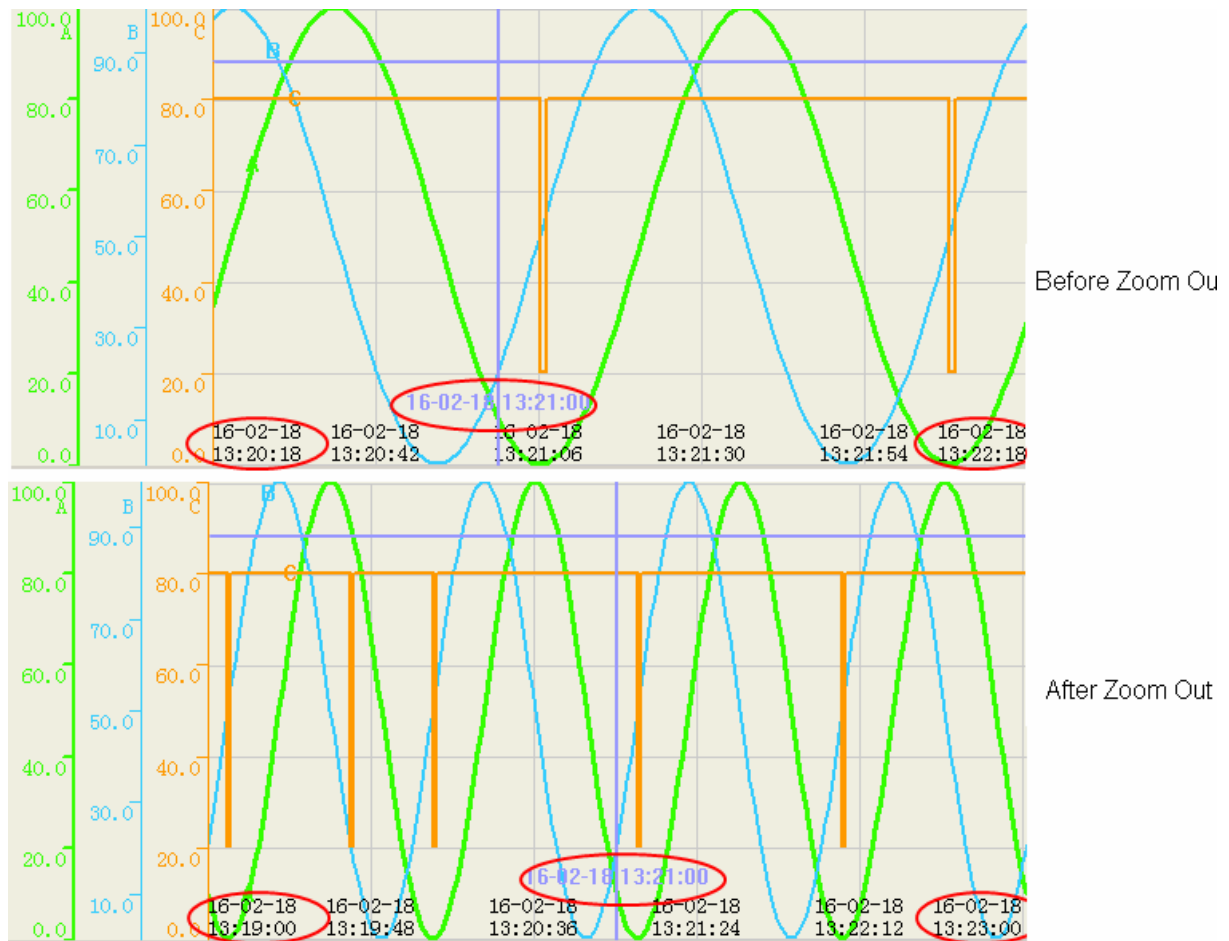

Figure 6-7 Before and after zoom in curve2
- 2) Set zoom out standard as "Cursor", cursor time is 16-02-18 13:21:00, click  button, start time of trend window is 16-02-18 13:19:00, final time is 16-02-18 13:23:00. Time span is from 2 to 4 minutes. Before and after zoom in curve is shown in Figure 6-7.